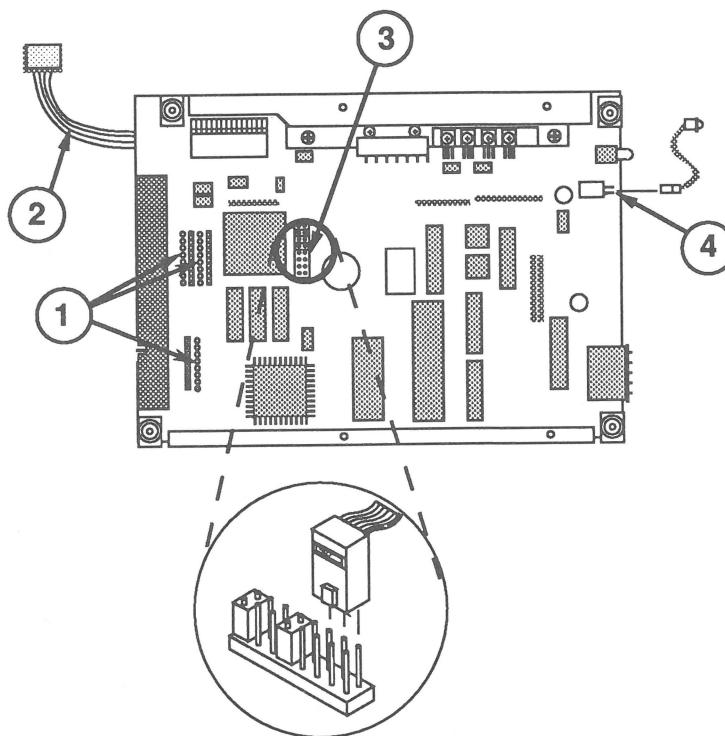

FIGURE 6
2. Disconnect the three resistor packs (Figure 6, #1) from the controller board. To do this, use needlenose pliers and pull the resistor packs straight up.
3. Disconnect the power cable (Figure 6, #2).
4. Connect the SCSI select cable (from the customer's mounting frame) to the SCSI select cable connector (Figure 6, #3) on the controller board. Connect the SCSI cable to the three pairs of pins closest to the center of the board (see detail drawing). (Leave the small black jumpers on the other pins.)
5. Position the customer's mounting frame over the bottom (board side) of the hard disk, and connect the LED cable connector to the controller board (Figure 6, #4). Be sure the tab on the cable connector is up and the wires are pointing down.